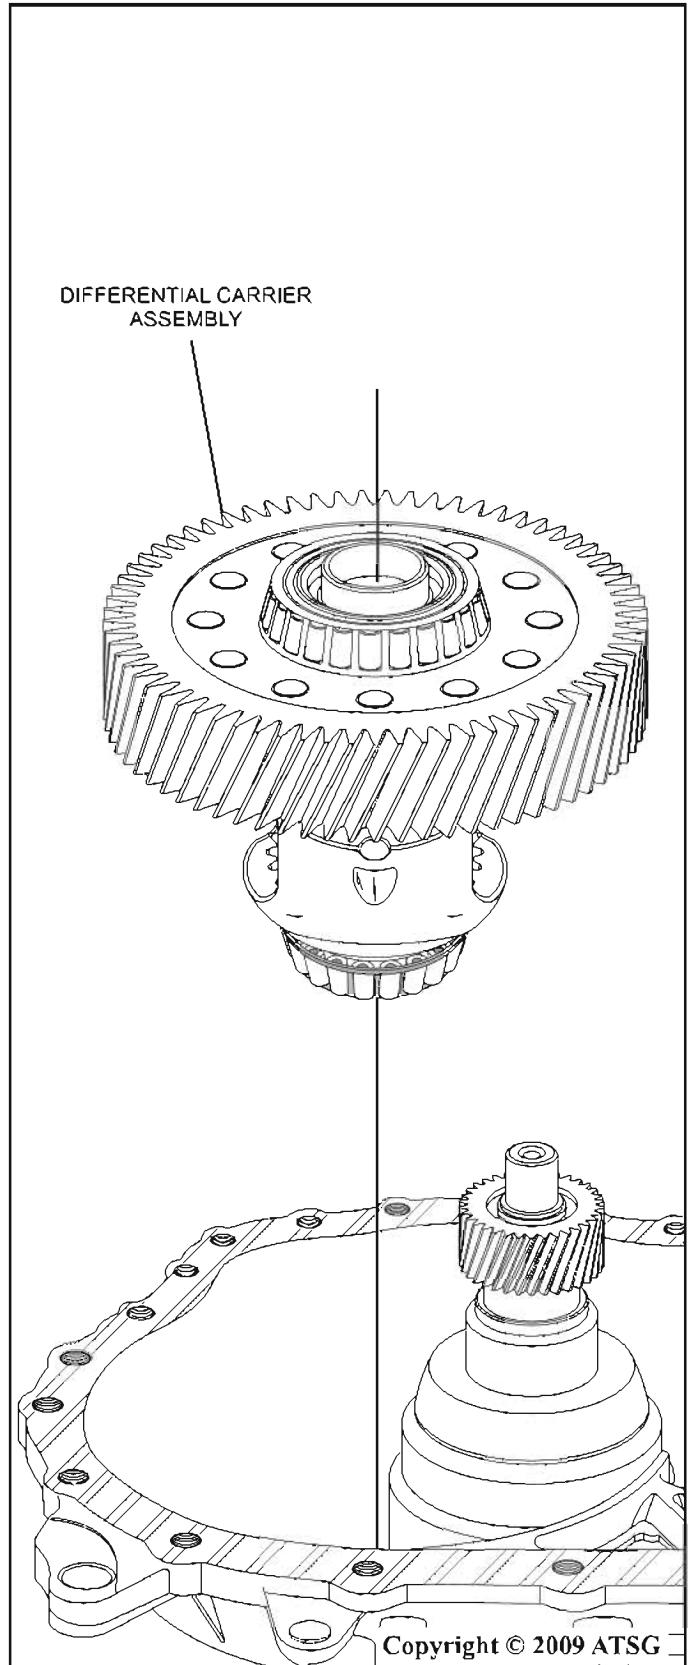

Figure 13
24. Remove the differential carrier assembly by lifting straight up as shown in figure 13.